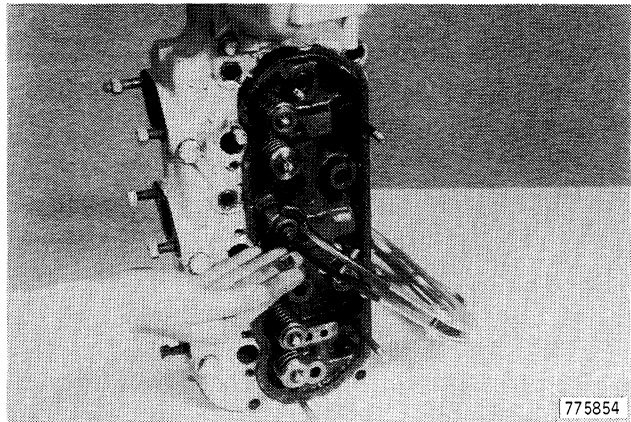

Figure 128
- 6. Install valve keepers, Figure 128.